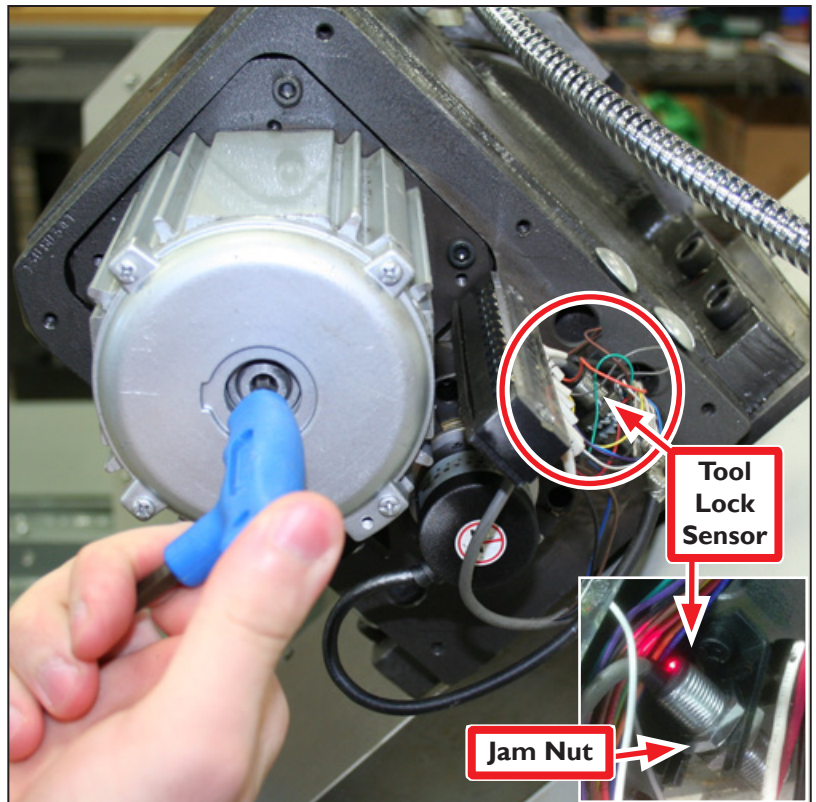

Figure 45
3. Using a hex wrench, rotate the turret motor in a clockwise direction until the turret moves to a fully-locked position (see **Figure 45**).
4. Loosen the *Jam Nut* on the *Tool Lock Sensor* (see **Figure 45** and inset).